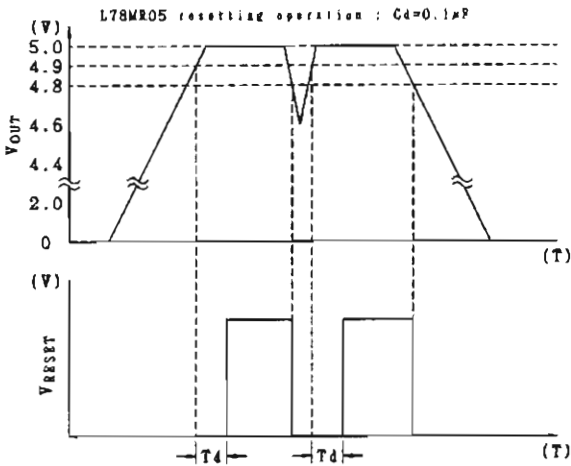

Figure 7
The microprocessor  $\overline{RES}$  input is set so the signal is applied slightly after the rising of VDD (power ON), and slightly before the trailing time (power OFF). This time lag is determined by C809 connected to IC pin ②. Figure 7 shows the timing diagram.